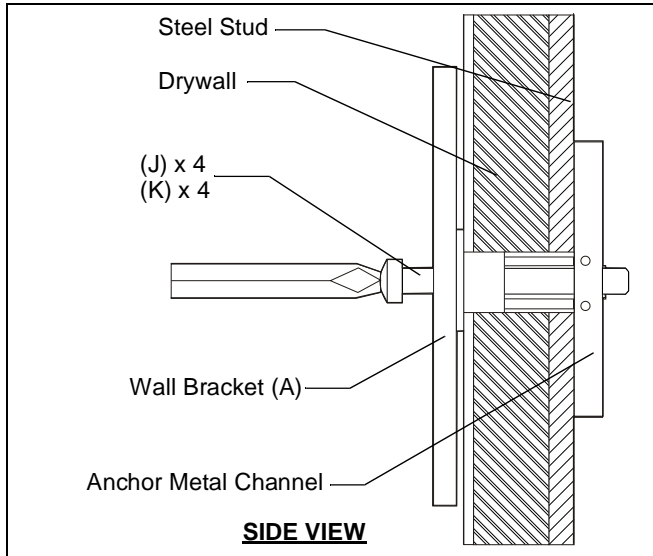

Figure 7
11. Place wall bracket (A) over anchors and align mounting holes in wall bracket with holes in anchors. (See Figure 7)
12. Place four flat washers (K) onto four 1/4-20 x 1-3/4" Phillips pan head screws (J).
13. Insert Phillips pan head screws (J) with flat washer (K) through mounting holes in wall bracket and into anchor (L) and tighten until flush against wall bracket. DO NOT overtighten!